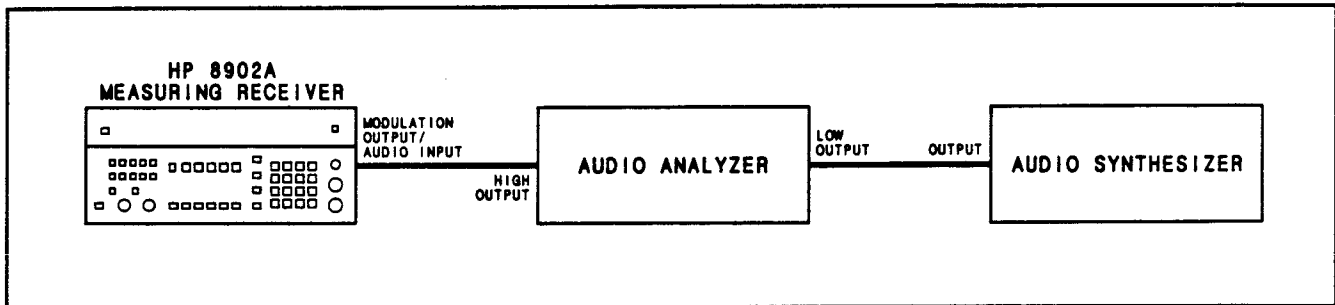

Figure 4-5. Distortion Accuracy Performance Test Setup
17. Set the audio synthesizer to 2 kHz at a level as low as possible without switching the instrument off (but less than -50 dBm). Connect the audio analyzer and audio synthesizer as shown in Figure 4-5. Note that the audio synthesizer is connected to the floating low output of the audio analyzer's output. (This has the effect of summing the two outputs.)